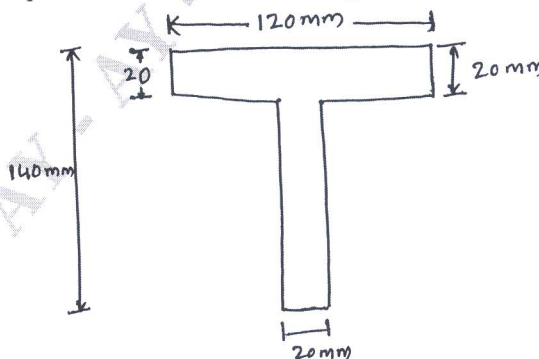

Fig.Q4(b)
- b. The T-section shown in Fig.Q4(b) is used as a simply supported beam over span of 4 meters it carries an uniformly distributed load of 8 kN/m over its entire span. Calculate the maximum tensile and compressive stresses occurring in the section.